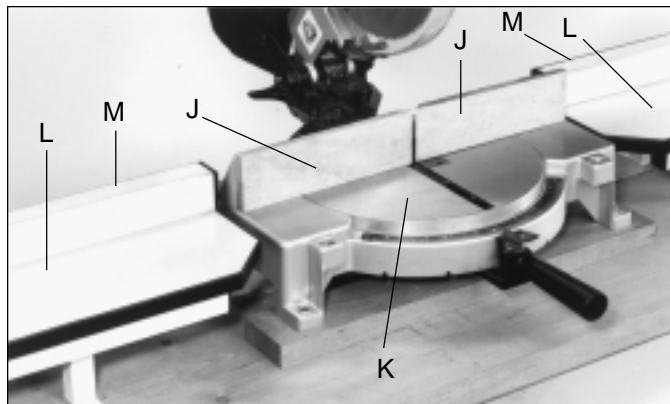

Fig. 8
10. Fig. 8 illustrates both the left and right fence halves (J) fastened to the saw fence. These fence halves were fabricated in **STEP 8**.
11. Fasten the miter saw (K) and miter tables (L) Fig. 8, to the workbench or other suitable flat surface, making certain that the saw table surface (K) is level with the miter table surface (L), and that the saw fence (J) is in line with the miter table fence.